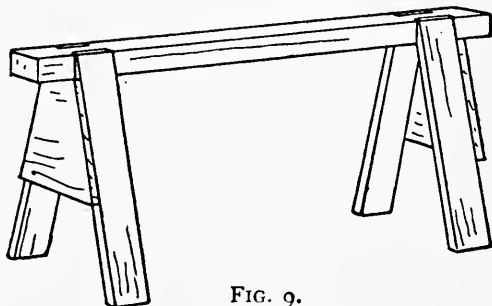
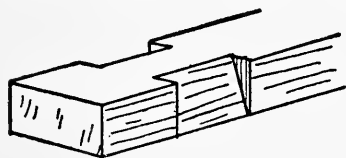

FIG. 9.
FIG. 10.
**Two Carpenter's Horses** will be required. A good scheme for these is shown in Fig. 9. The top is made out of a piece of two-by-four with bevelled mortises cut in two sides of each end as in Fig. 10.